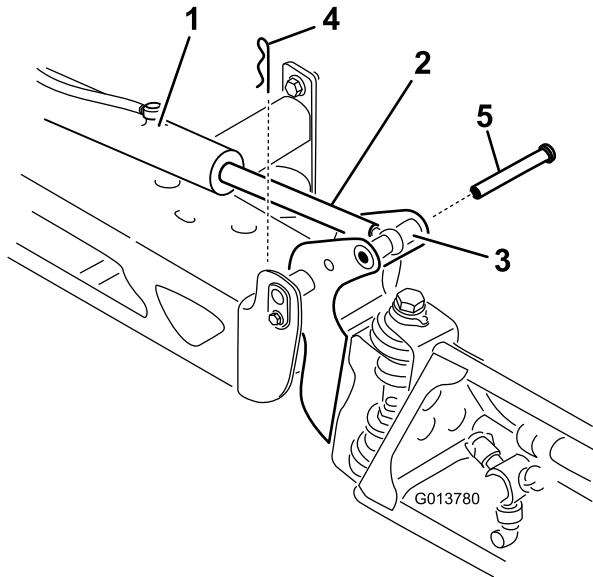

Figure 103
2. Remove the cotter pin from the pivot pin (Figure 103).
3. Lift up on the boom and remove the pin (Figure 103), and slowly lower the boom to the ground.
9. While holding the boom, insert the pin through both boom pivot and actuator rod (Figure 103).